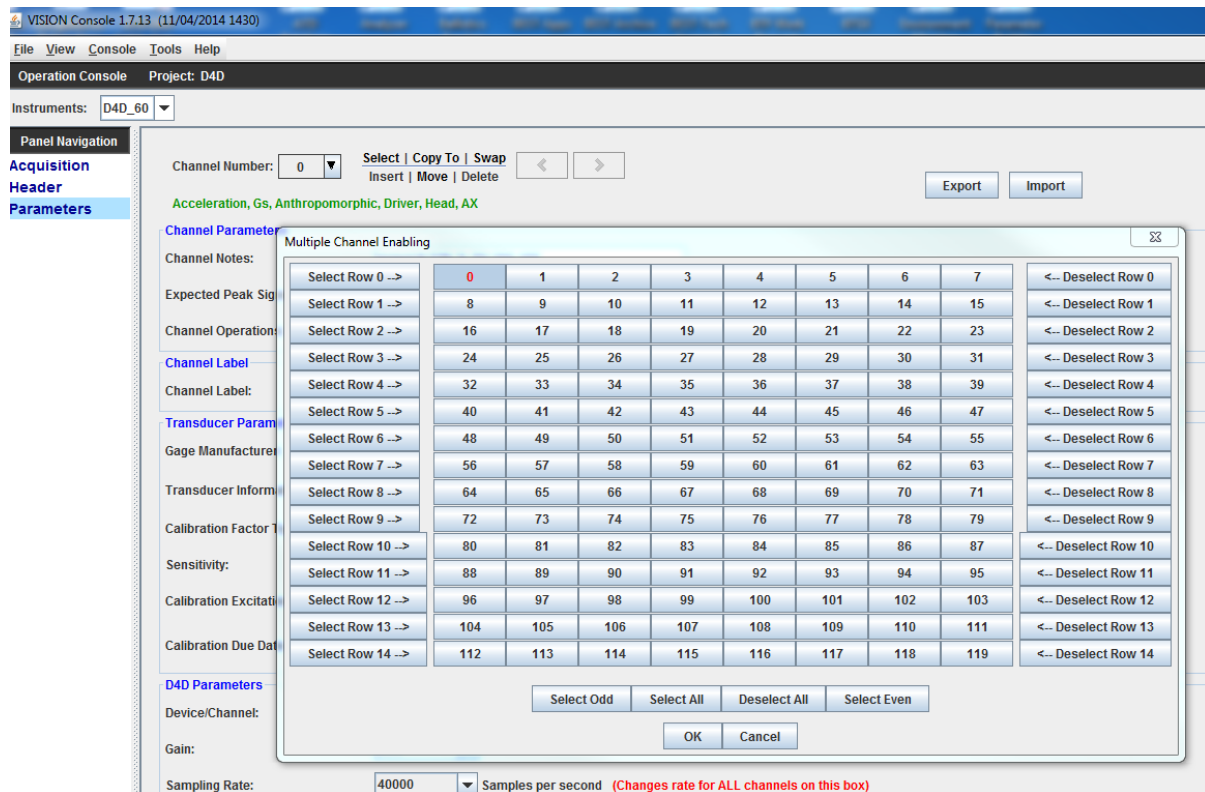

Figure 12. Channel selection.
b. Some ATDs do not have mid tibia accelerometers installed in them. If a warning came up when building the parameters it was likely because the mid tibia accelerometers are not installed in the ATD. This is not an issue, however the user needs to turn these channels off. This is done by first identifying which channels are the mid tibia channels then clicking on select and clicking on each channel to deselect them from the list. The number should turn from red in color to black in color. Red signifies that the channel is selected and will be used to collect data, black signifies that the channel is deselected and will not be used to collect data (Figure 12).